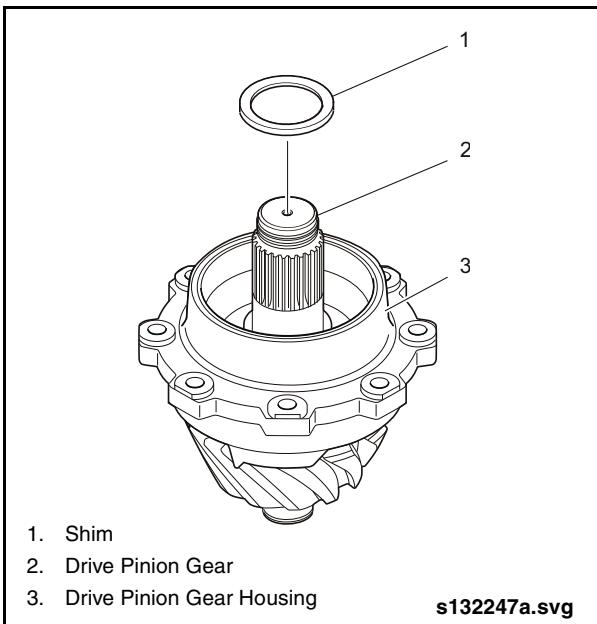

Fig. 2-99: Installing Drive Pinion Gear Housing
1. Install the drive pinion gear housing onto the drive pinion gear. See "Fig. 2-99: Installing Drive Pinion Gear Housing" on page 80.